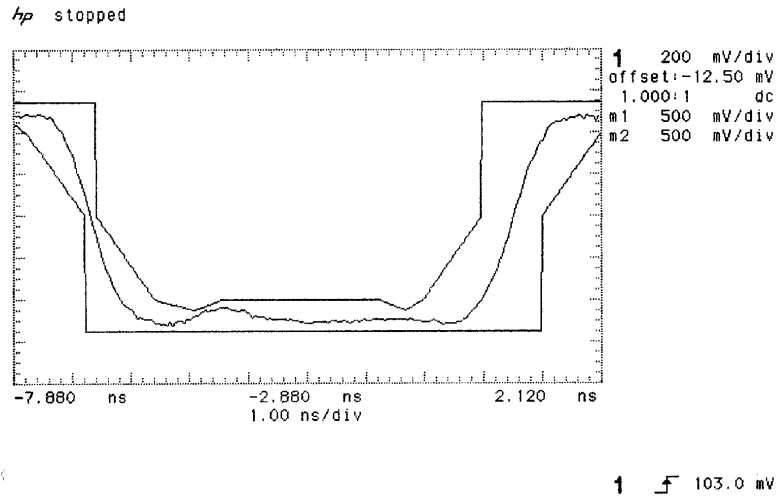

Figure 3-12
40. Press **SHIFT** **AUTOSCALE** on the oscilloscope to automatically align the pulse to the mask. Verify that the pulse falls within the mask as shown in Figure 3-12.